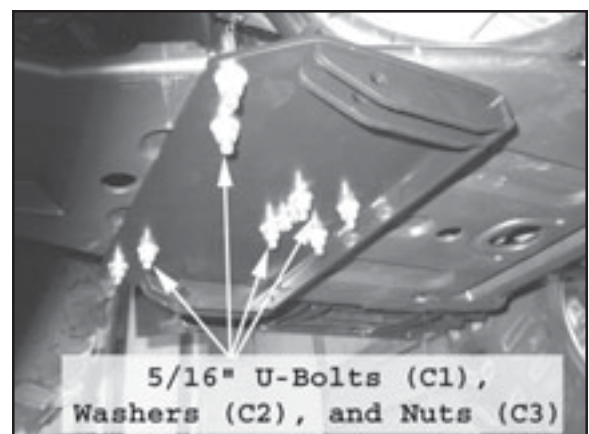

Figure3 Attach Plow Mount to Vehicle
8. Attach 5/16" washers and 5/16" nylock nuts to the end of each U-bolt. Tighten securely. The complete plow mount should look like Figure 3.